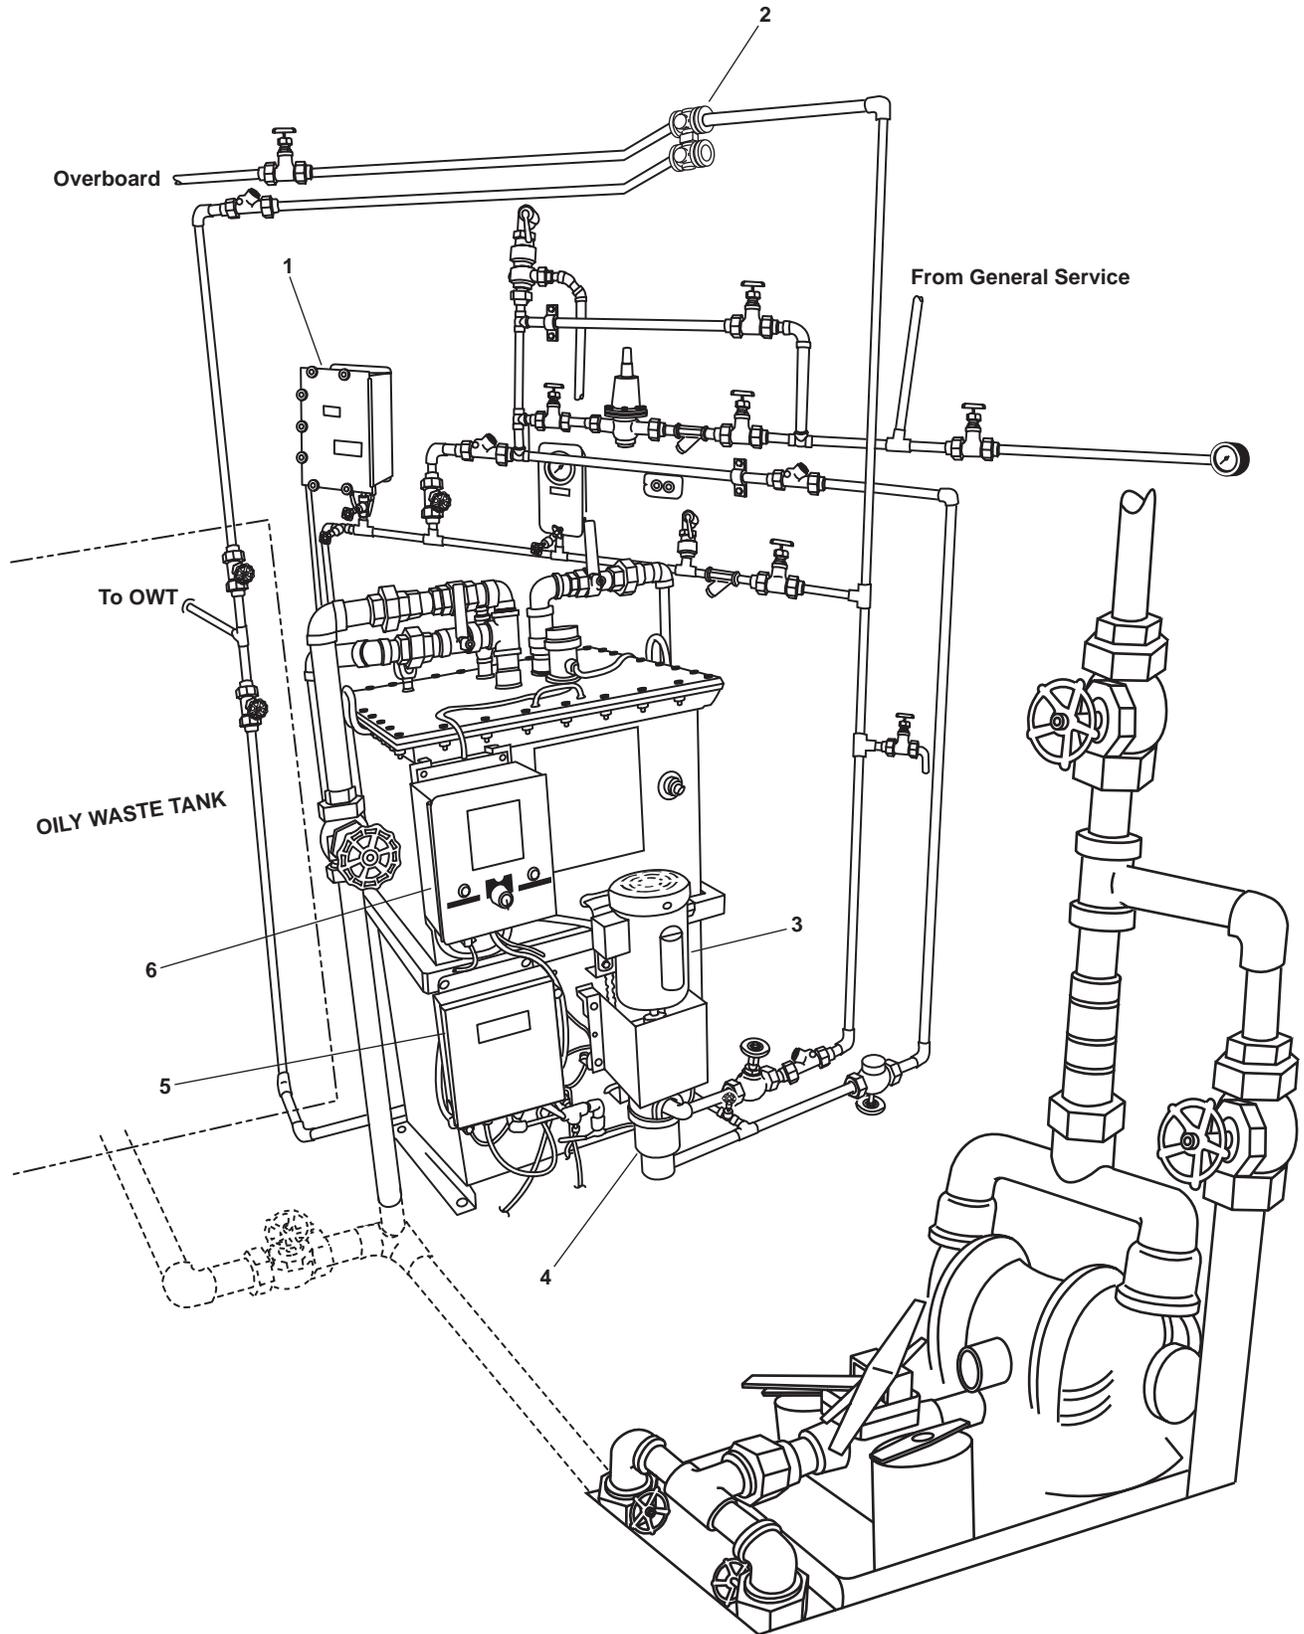

Figure 2. OCM and OWS Major Component Locations (Profile View)
4. OCM Sampling/Sensor Assembly (figure 2, item 1). The sampling/sensor assembly enclosure has two separate internal compartments. One compartment has a drain in its bottom and houses the sample and detection subassembly, which is a wetted part. The second compartment is environmentally sealed to provide maximum protection to the electronic components within. In this compartment are the OCM control circuits and the main indicator panel display. The primary function of the sampling/sensor assembly is to sample and measure the amount of oil contained in OWS discharge water. It provides control signals to the system indicators, and provides control signals to the remote relay assembly, which in turn controls the diverter solenoid valve.
5. Diverter Solenoid Valve (figure 2, item 2). This motor actuated valve directs the discharge flow from the OWS. When discharge oil levels are below the selected limit, the valve directs flow overboard. When discharge oil levels are above the selected limit, the valve directs flow to the OWT. The valve fails to the OWT position if power or the control signal is lost.
6. OWS Pump Motor (figure 2, item 3). This electric motor drives the OWS discharge pump. The motor is controlled from the oily waste control panel.
7. OWS Pump (figure 2, item 4). The OWS pump is a long-coupled progressing cavity pump mounted on the aft side of the OWS tank and is used for effluent discharge and inlet suction. The pump has a castiron housing with stainless steel rotor, Buna-N stator, and carbon-ceramic mechanical seal. The pump is driven by the OWS pump motor.
8. OCM Remote Relay Panel (figure 2, item 5). The remote relay panel contains a relay circuit that controls the operation of a diverter solenoid valve in response to a control (alarm) signal received from the sampling/sensor assembly. The diverter solenoid valve control relay has a 60 second time delay, controlled by a solid-state timer in this assembly. There are no indicators on this unit.
9. Oily Waste Control Panel (figure 2, item 6). OWS control components are enclosed in an enclosure mounted on the aft side of the OWS tank. Appropriate safety features (i.e., safety interlock and fuses) are included on the inner panel. The outer panel contains the control switch (with AUTO, OFF, and MAN positions), a POWER AVAILBALE indicator light, and an OIL DISCHARGE indicator light.